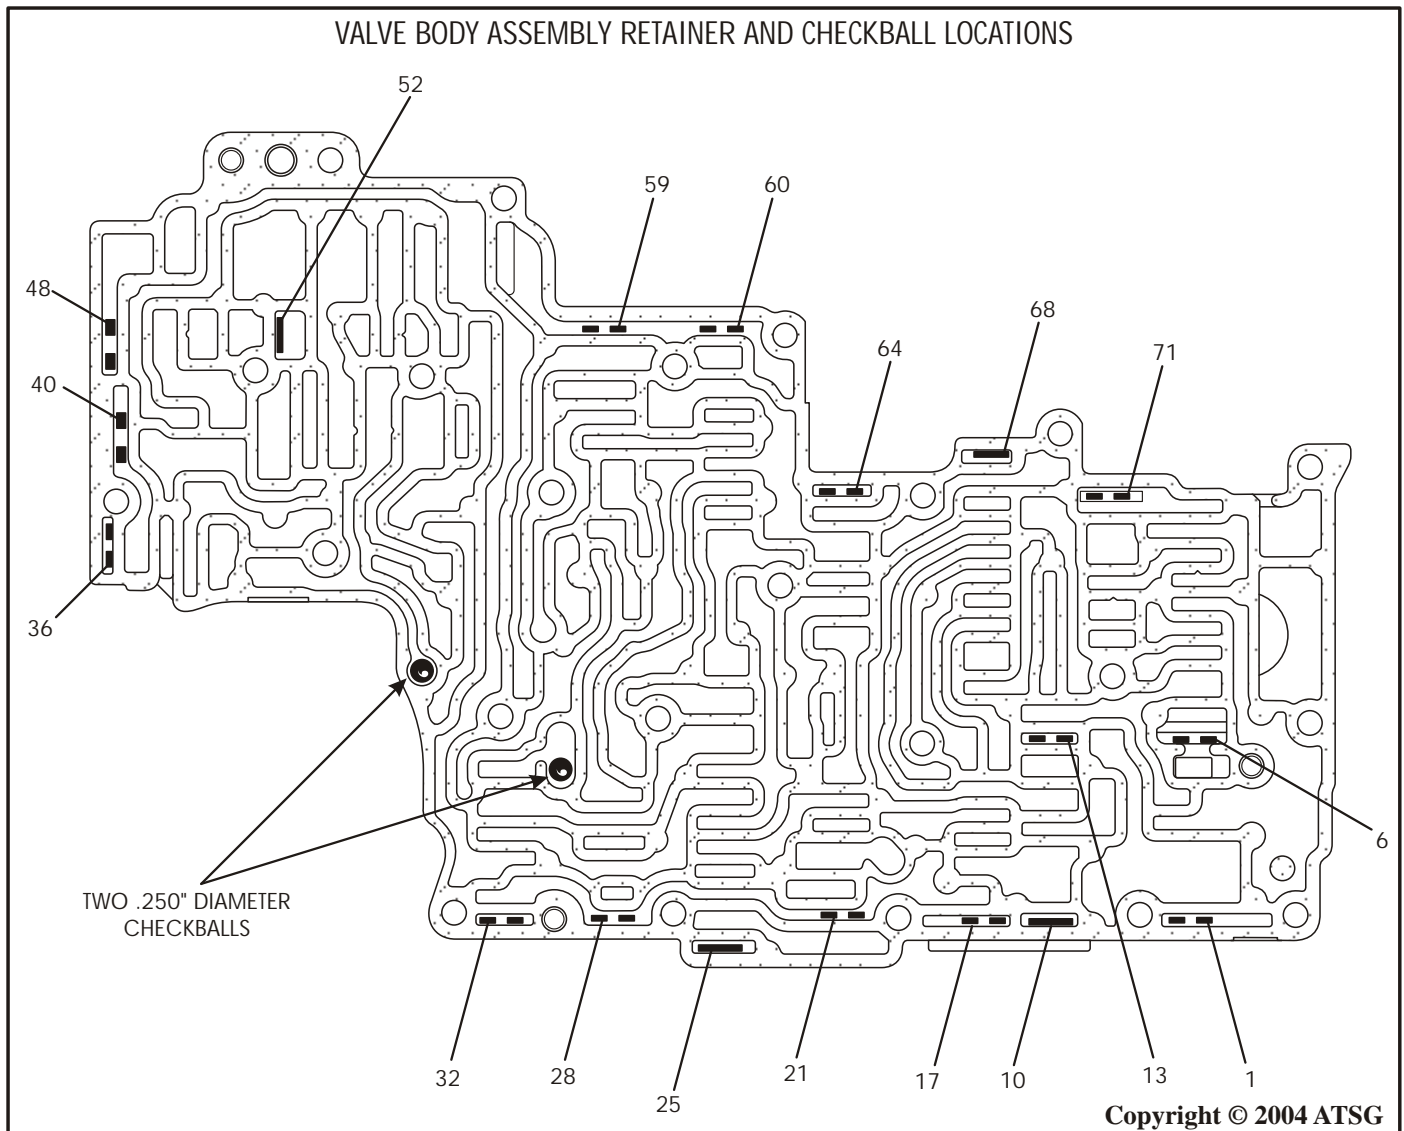

Figure 110
6. Refer to Figure 110 for the **exact** placement of retaining pins and clips, as some of them are installed inboard in the worm tracks of the valve body casting.
8. Ensure that the valve train retainers have been installed in their proper locations, as shown in Figure 110.
- Note: The numbers in Figure 110 refer to the illustration numbers in the legend on Page 65.**
10. Install the two .250" Viton checkballs into the locations shown in Figure 110 and 111.